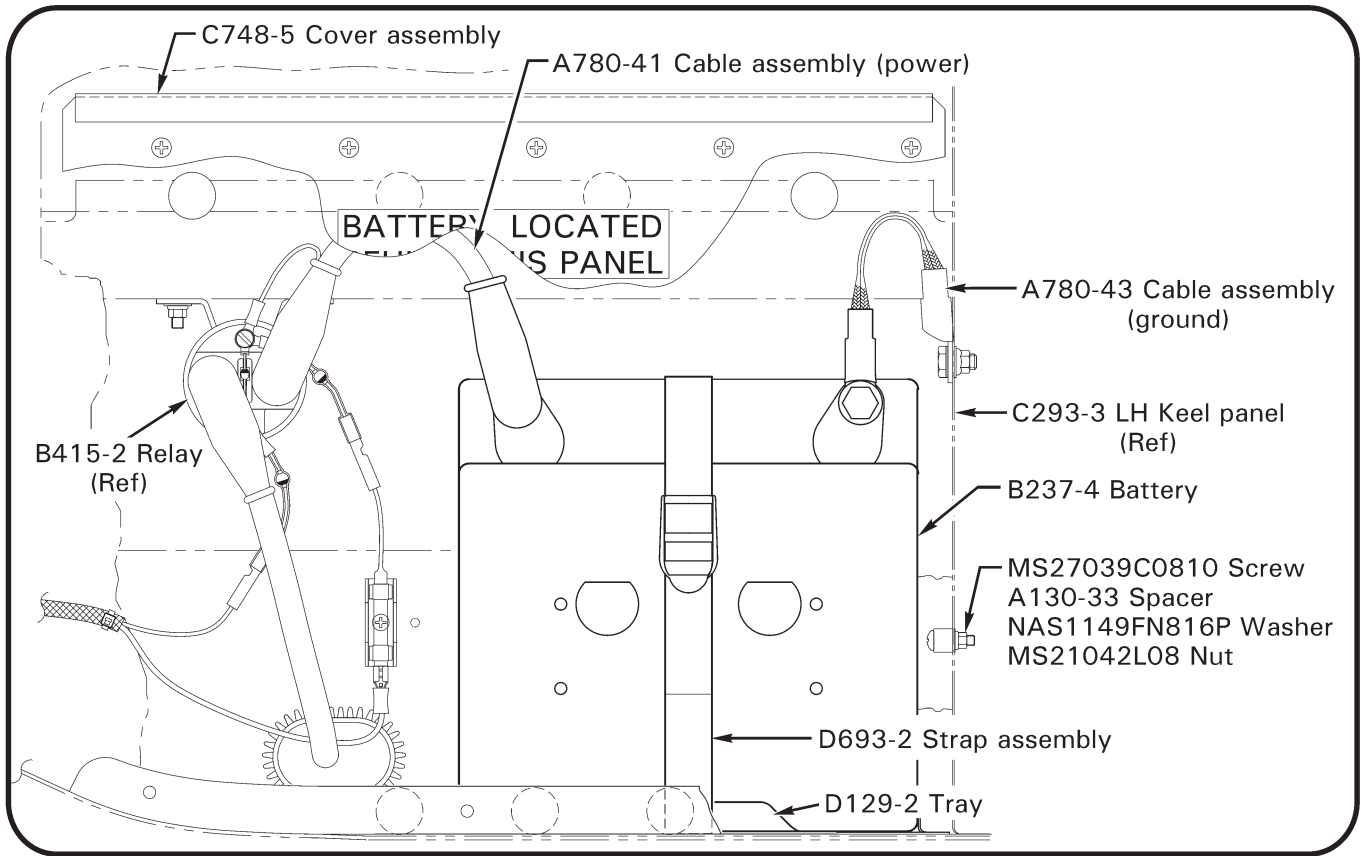

FIGURE 1 Existing B237-4 (24V) battery installation
1. Refer to Figure 1. Turn BATTERY switch OFF. Pivot front left seat forward and remove C003-8 insulation (ref. R44 Illustrated Parts Catalog [IPC] Figure 25-23). Remove and discard C748-5 (battery) cover assembly. Release D693-2 strap assembly.